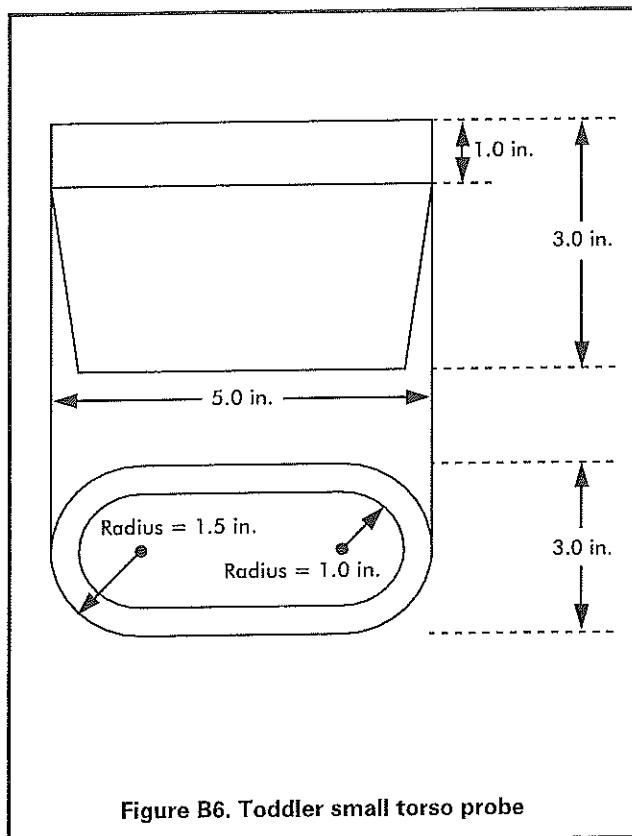
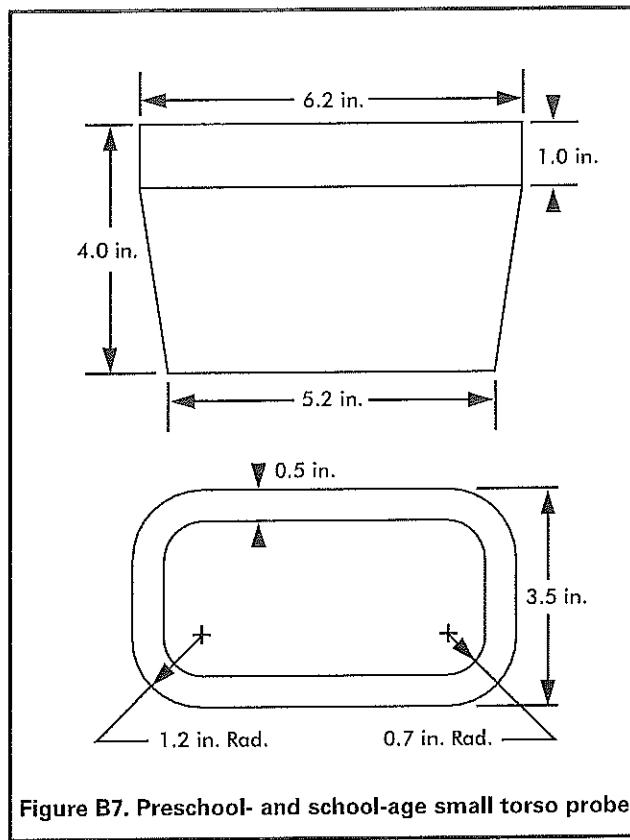
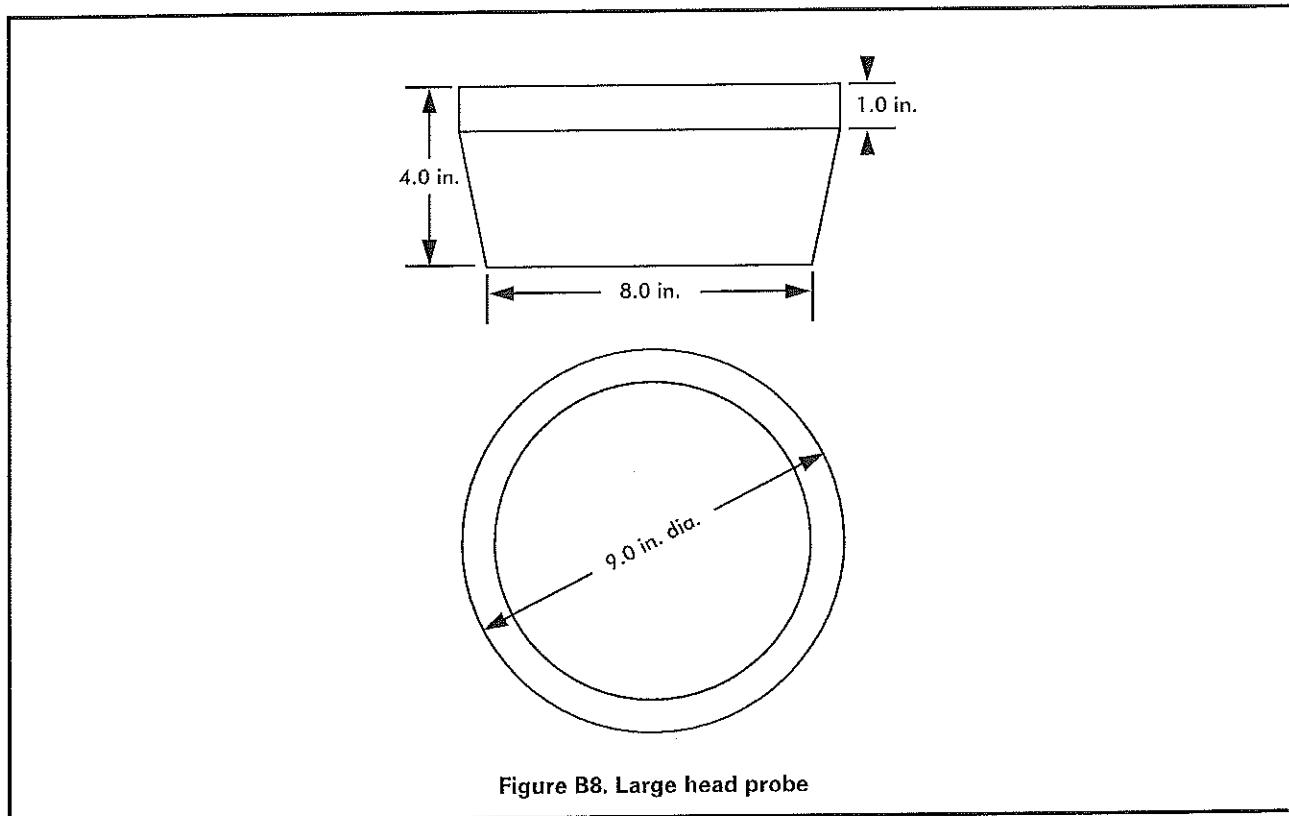

Figure B6. Toddler small torso probe
Figure B7. Preschool- and school-age small torso probe
Figure B8. Large head probe
The procedure for determining conformance to the entrapment recommendations for flexible openings requires two three-dimensional test probes which are illustrated in Figure B6, Figure B7, and Figure B8 are applied to an opening in a flexible component with a force of up to 50 pounds.
Step 3: Place the small torso probes (Figures B6 and B7) in the opening, tapered end first, with the plane of its base parallel to the plane of the opening.